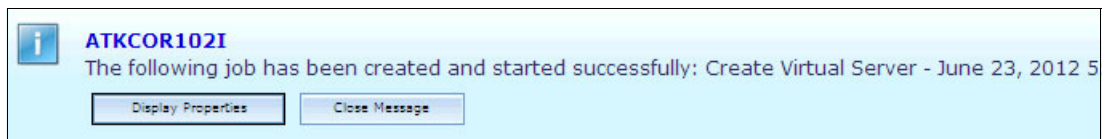

Figure 12-25 Information blue box
11. A blue box information message is displayed as shown in Figure 12-25. Click **Display Properties**.